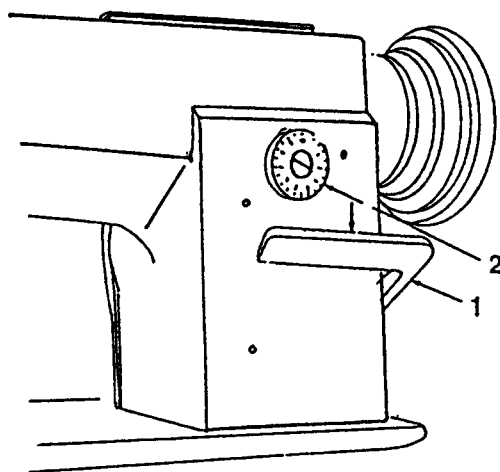

Fig.12
STITCH LENGTH ADJUSTMENT & REVERSING LEVER (Fig.12)
1. Loosen the screw (1) for cover plate (2) and then remove the cover plate (2)
2. Normally put the arrow mark (7) of the cam (6) on the V ditch (5) of arm shaft.
4. And, pushing the stitch length regulating lever (1, Fig.12) up and down, turn the cam (6) and set this at the point both the needle and the feeder rest. After positioning completed, tighten the each screw securely.